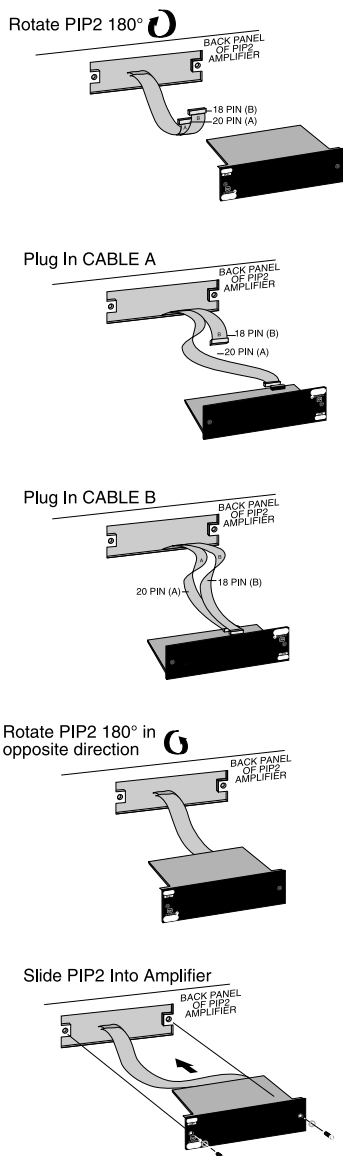

Figure 3.2 Installing the IQ-PIP-USP2/CN
7. **Install the IQ-PIP-USP2/CN into the amplifier:** Turn the IQ-PIP-USP2/CN over so that you can clearly see the two ribbon-cable connectors located on the underside of the circuit board (see Figure 3.2). Connect the two input ribbon cables of the amplifier. The 20-pin cable (A) should be connected first, then the 18-pin cable (B) should be connected.
Both ribbon cables should run smoothly from the amplifier to the PIP card (see Figure 3.2).